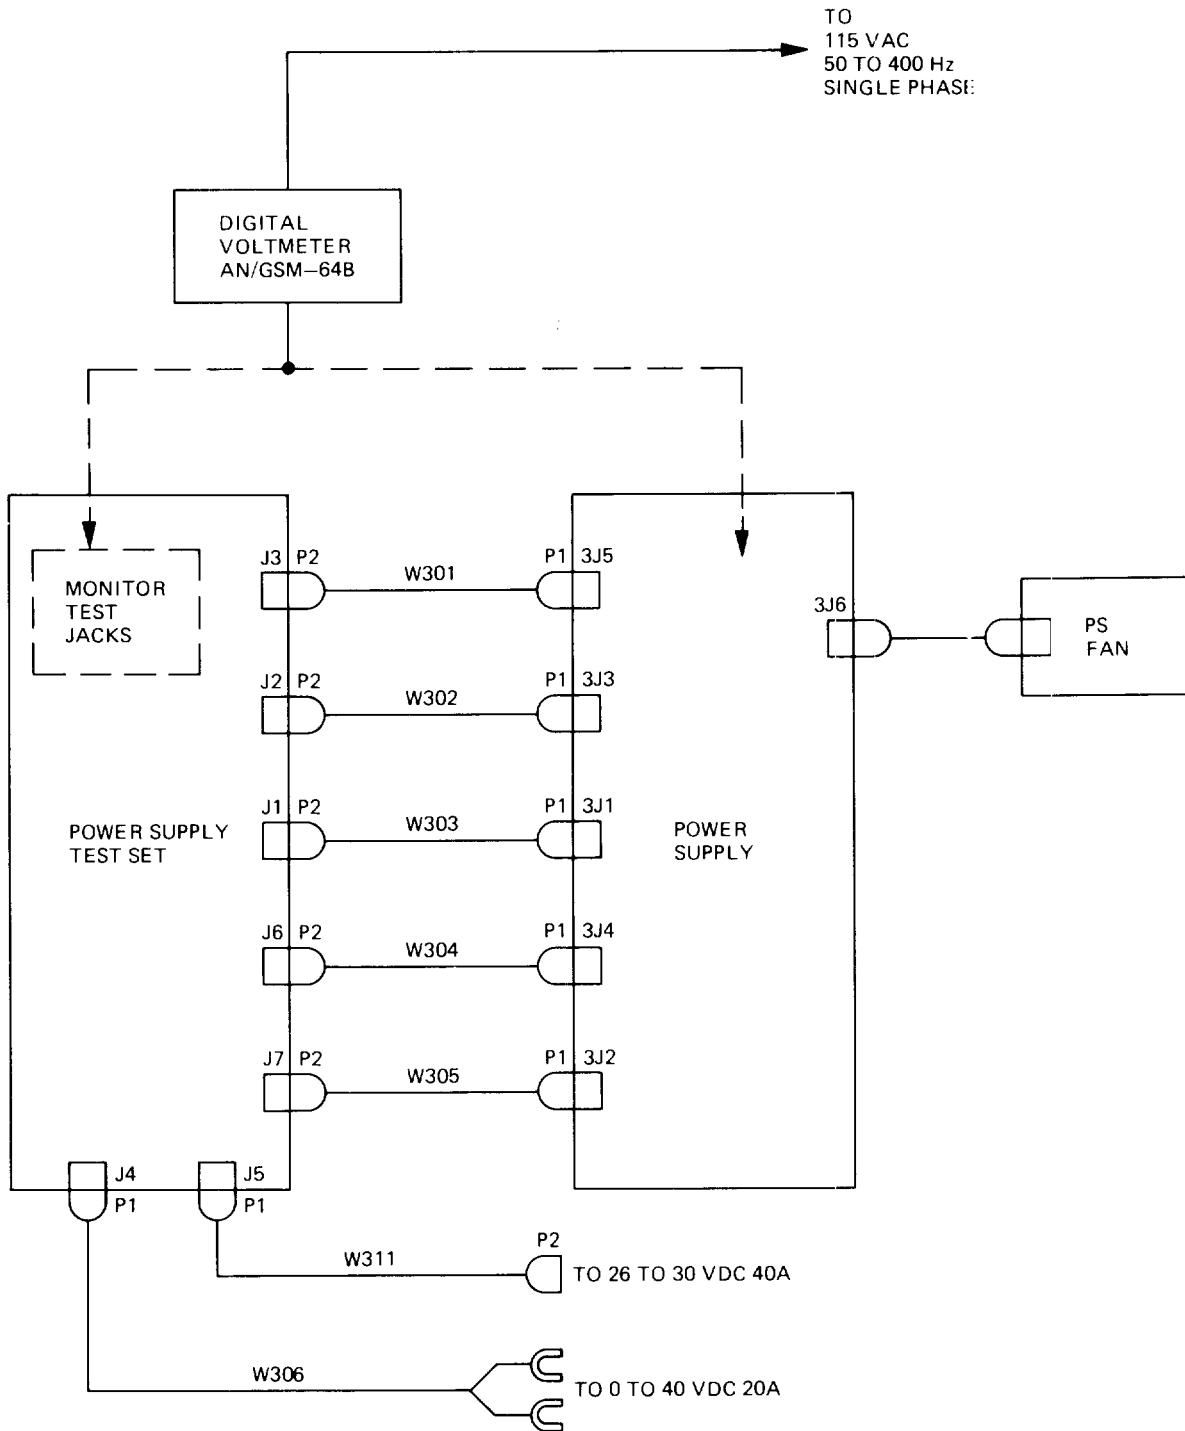

Figure 4-10. Power Supply Testing Interconnection Diagram
- 1d. Connect equipment as shown in figure 4-10 and the following checklist: